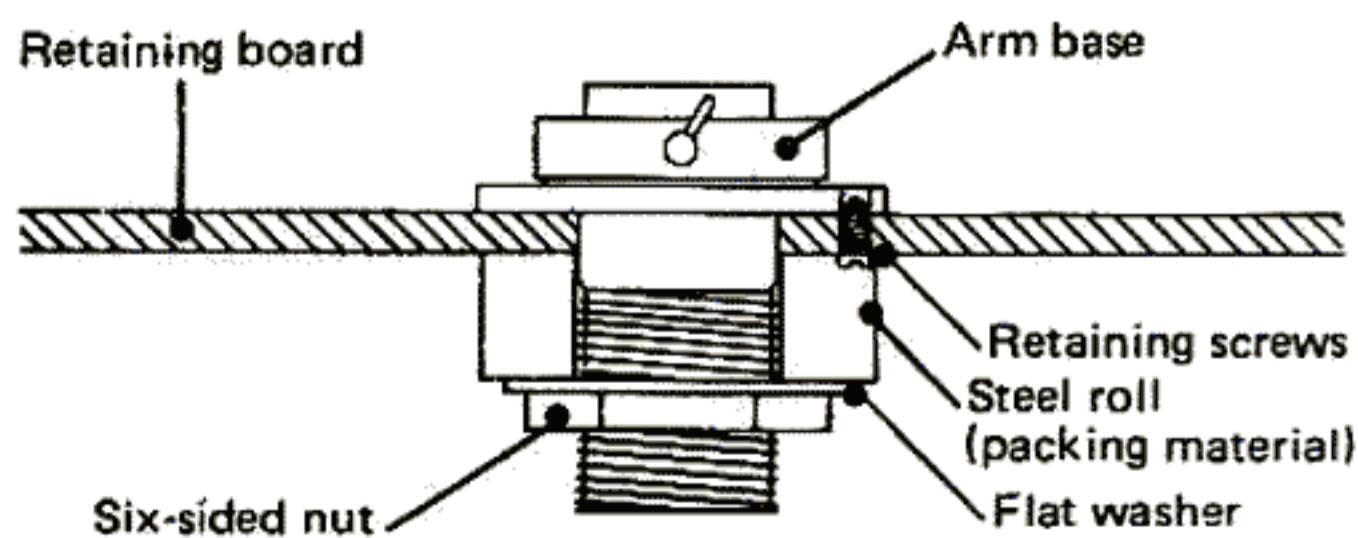

Fig. 1
3) Remove the tonearm from its packing box and then loosen and detach it from its retaining board, taking care not to lose or misplace the six-sided nut or the retaining screws which will be required for installation (see fig. 1).